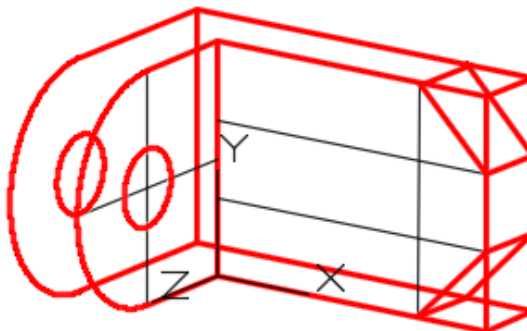

Figure Step 15
Step 15 Copy the lines in the negative Z direction and add the necessary object lines. (Figure Step 15)